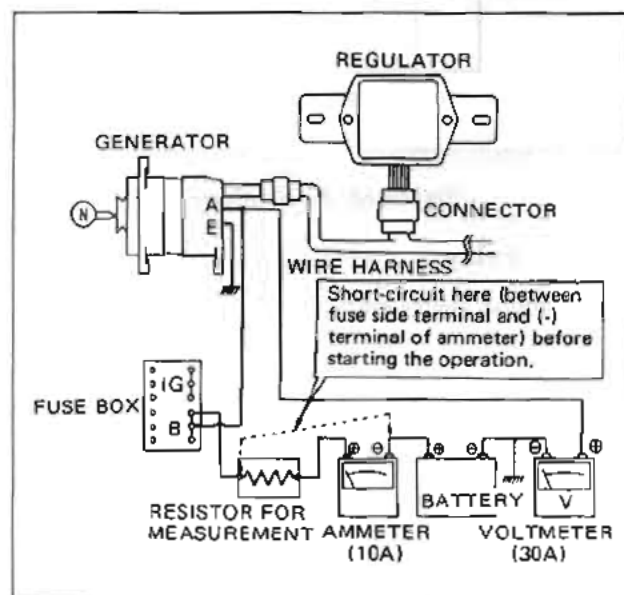

Fig. EE-64 Regulating voltage measuring circuit with regulator mounted on the vehicles
(1) Use the same equipment as for the theoretical method, and connect them as shown in Figure EE-64. Install the regulator perpendicularly by facing the connector downward in this case, also.
(2) Make sure that all electrical loads (such as head lamps, air conditioner, radio, etc.) on the vehicle have been interrupted.
(3) Before starting the operation, be sure to short-circuit the line between fuse side terminal of the resistor for voltage measurement and (-) terminal of the ammeter. Pointer of the ammeter may deflect rapidly and reversely due to discharge current flowing from the battery resulting damaged ammeter. (See Figure EE-64.)